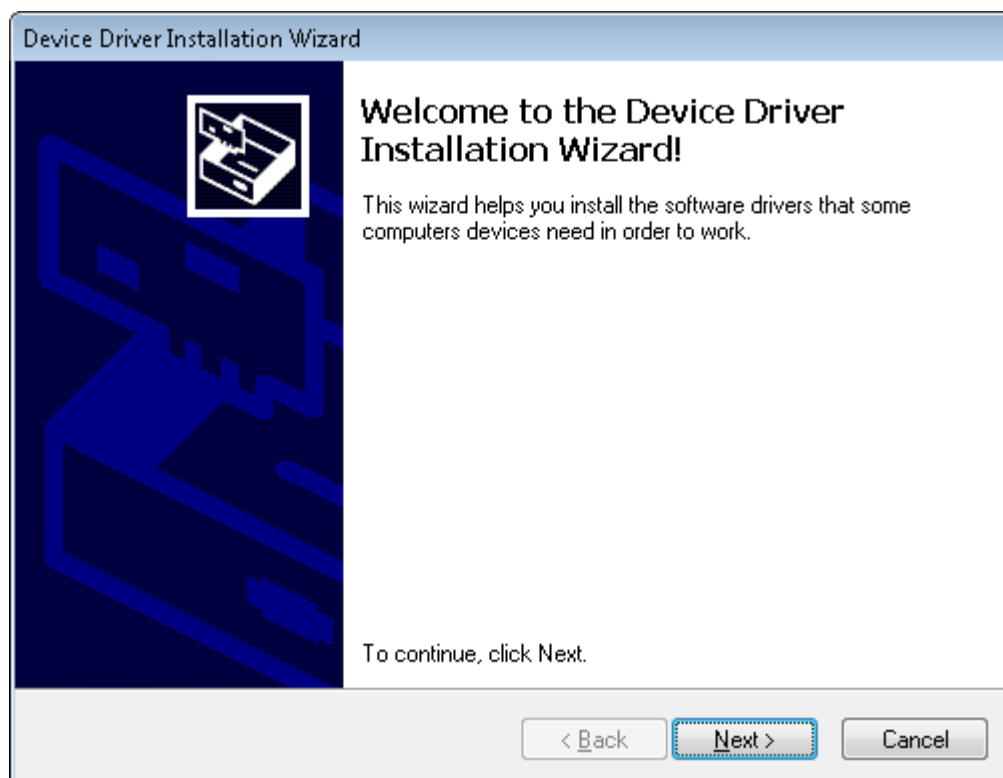

Figure 16. Driver Installation Wizard
15. A screen as shown in Figure 16 appears, click **Next** to proceed.